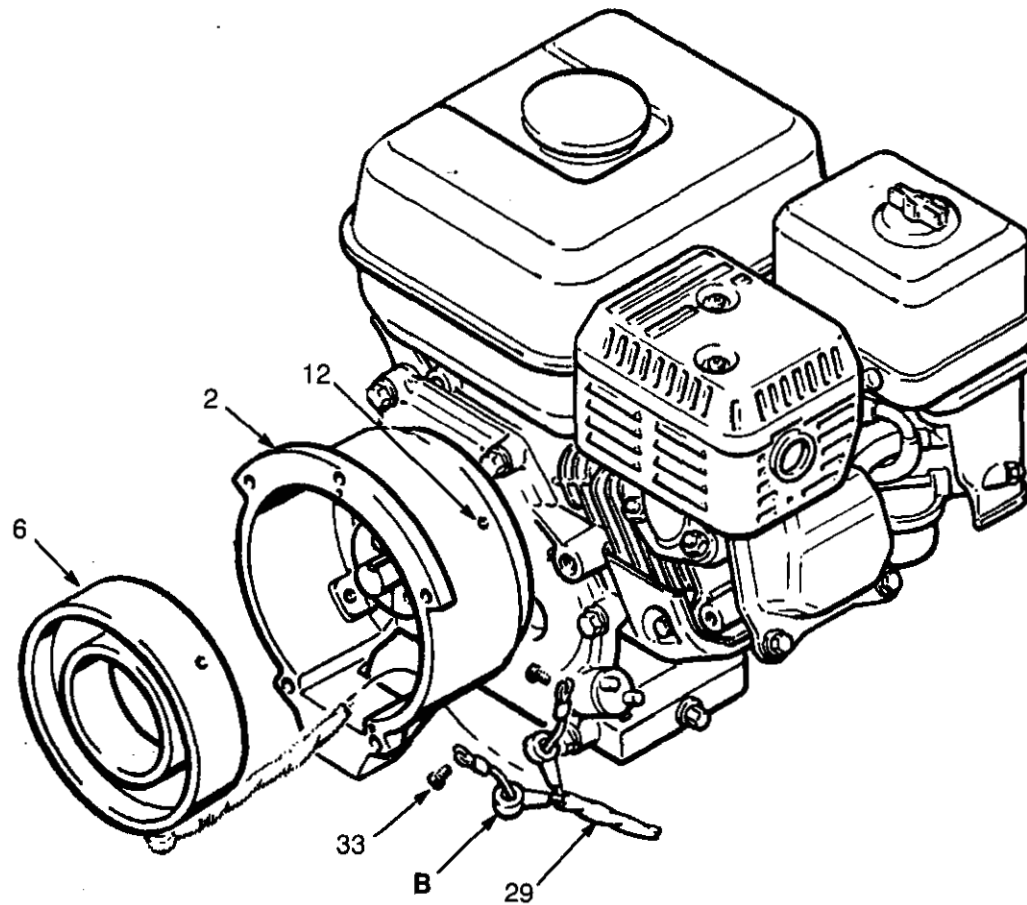

Fig 30-1
NOTE: Refer to Fig 30-1.
2. Loosen the four setscrews (12) holding the field (6) to the clutch housing (2) and pull out the field.
3. Pull the plastic caps (B) off the wire screws (33) in both places on the field. Loosen the screws and release the wires. See Fig 30-1.